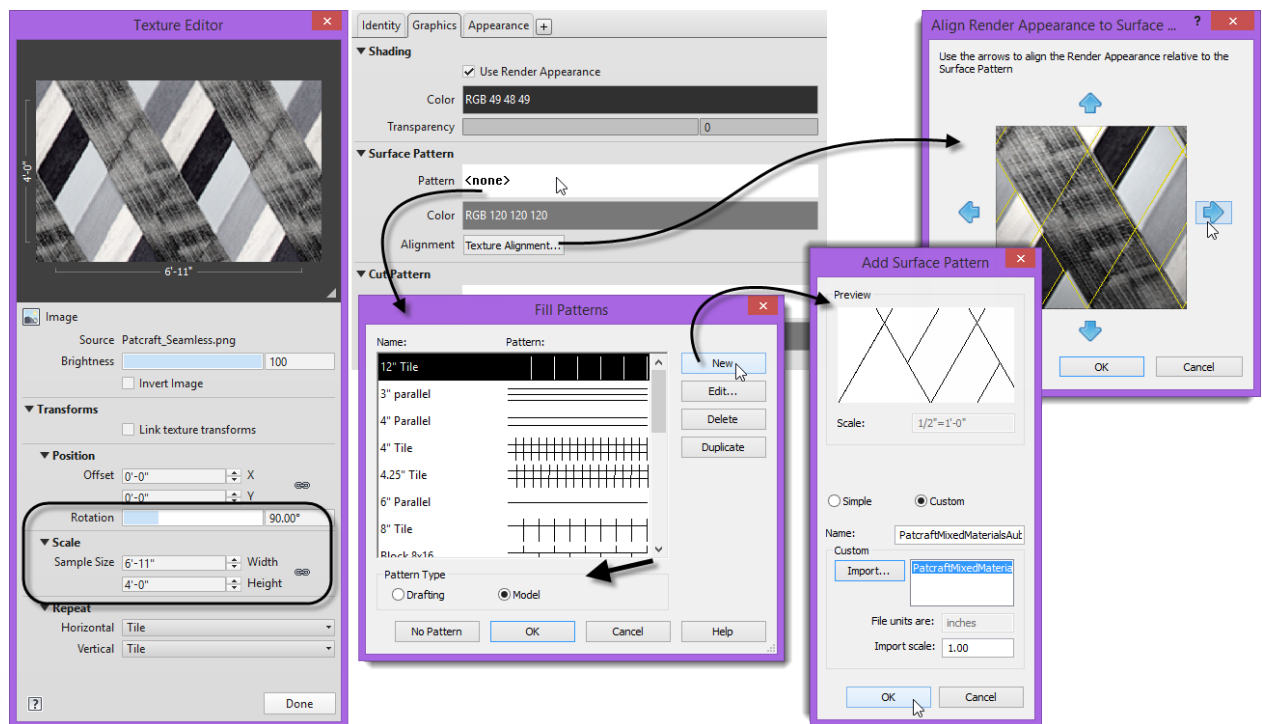

Figure 27—Add the custom texture and then create and align a custom surface pattern
- ⇒ Use the blue arrows to shift the texture until it aligns with the superimposed pattern of lines. Click OK when finished. Click OK again (see Figure 27).